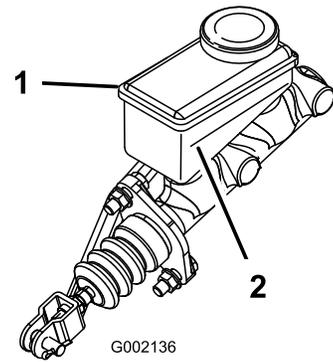

Figure 56
3. Look at the outline of the fluid level at the side of the reservoir (Figure 56).
- B. Add DOT 3 brake fluid to the reservoir until the fluid level is above the Minimum line (Figure 56).